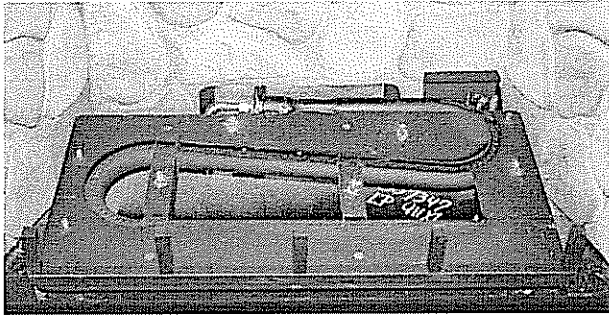

Figure G-2
4. Place the burner / cover assembly onto the board, properly seating the burner tube over the orifice and aligning the mounting holes in the burner brackets to the corresponding mounting studs on the bottom of the millivolt board. Figures G-2 & G-3.